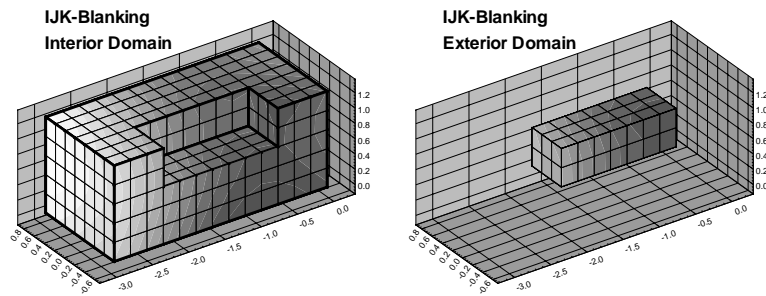

Figure 27-8. IJK-blanking with Interior domain (left) and Exterior domain (right).
- **Interior:** Cells within the specified index ranges are blanked. Those outside are plotted. This creates a “hole” in the zone. The left side of Figure 27-8 shows an ordered zone with IJK-blanking with Interior domain.
- **Exterior:** Cells outside the specified index ranges are blanked. Those inside are plotted. This plots a sub-zone of the zone. The right side of Figure 27-8 shows an ordered zone with IJK-blanking with Exterior domain.